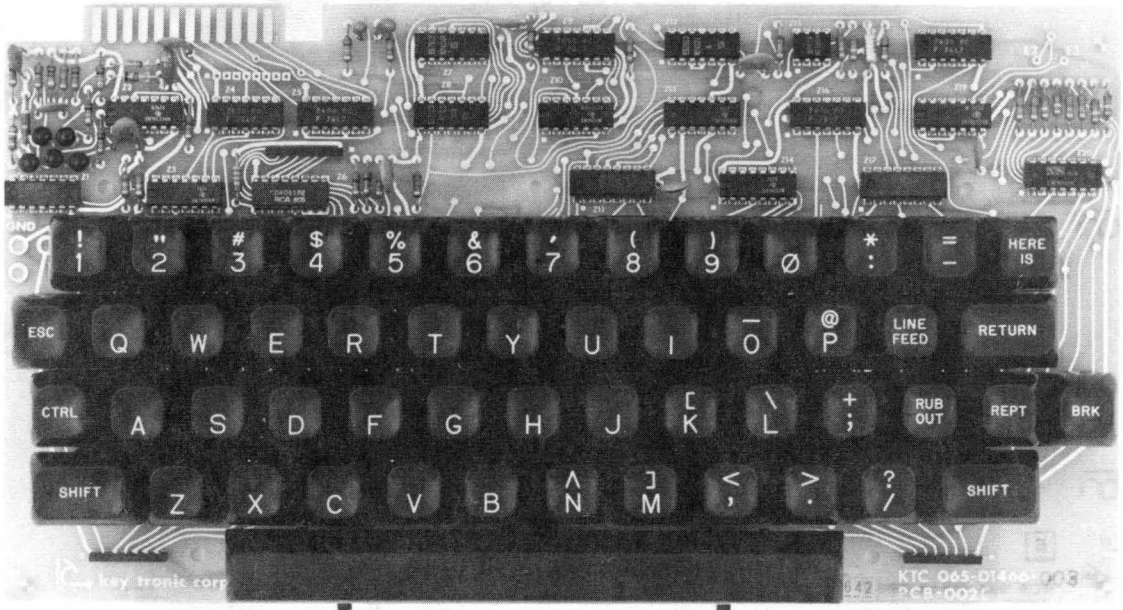

Figure 12 Keyboard Assembly
5.2.1 Keyboard Assembly (Figure 12)